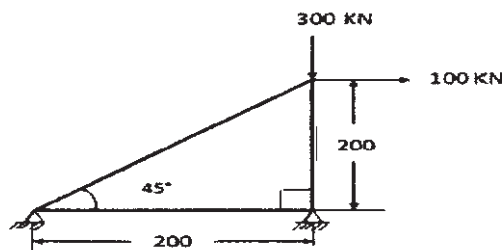

Fig. 1
- Q3) a)** For the truss structure shown in Fig.1 determine stress in each element. [12]